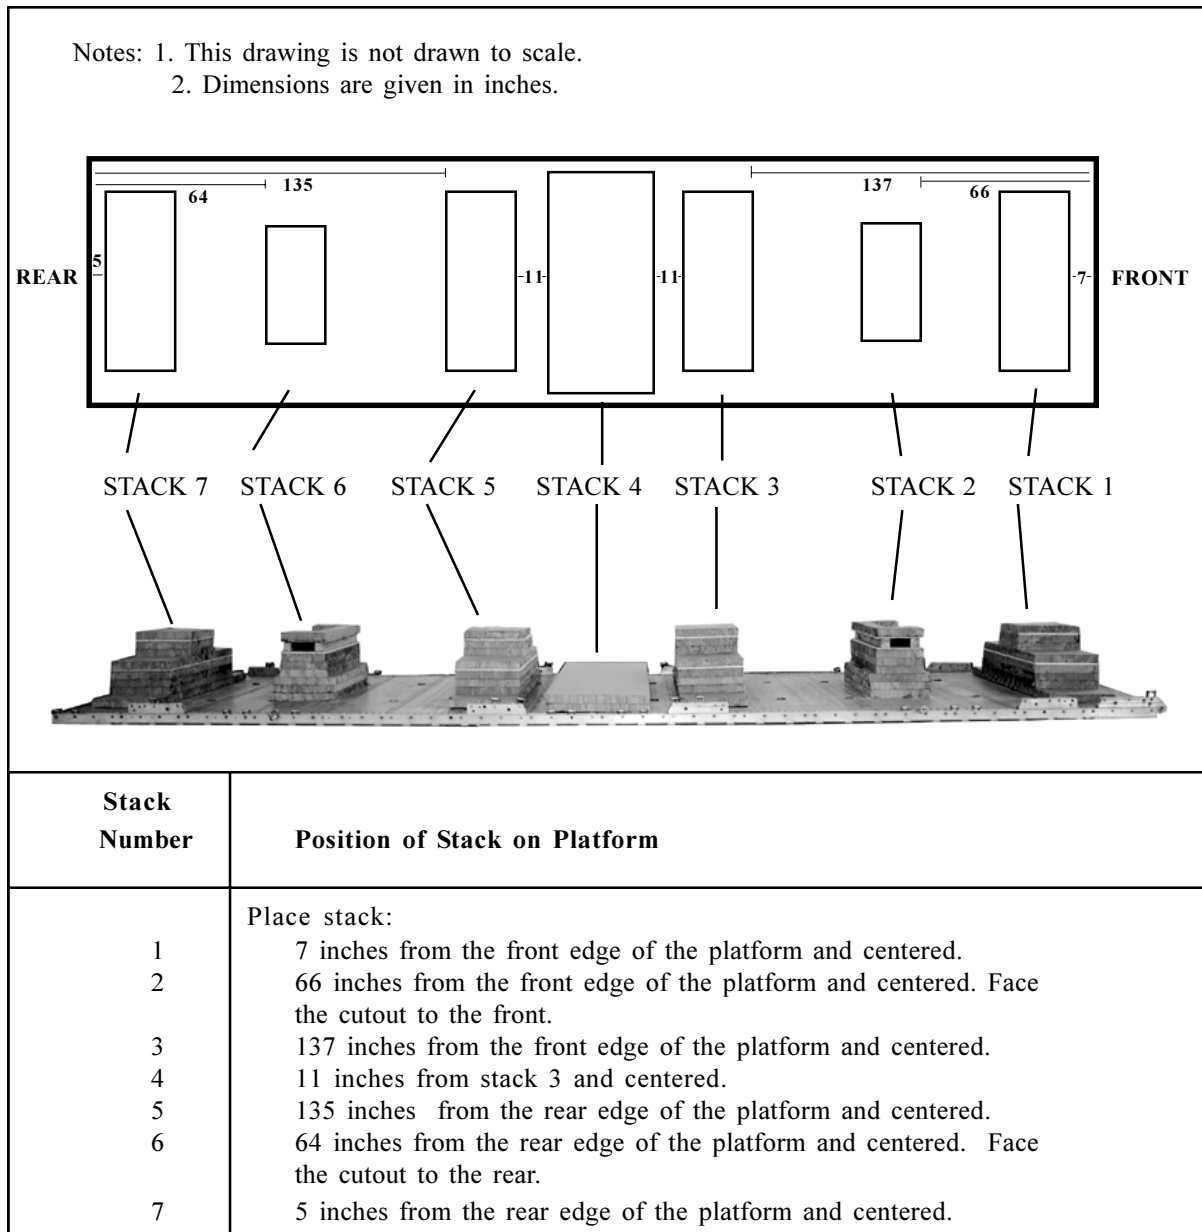

Figure 6-2. Honeycomb Stacks Positioned On Platform
6.3. Prepare honeycomb stacks 1, 3, 5, and 7 as shown in Figure 2-3. Prepare honeycomb stacks 2 and 6 as shown in Figure 2-4. Position the stacks on the platform as shown in Figure 6-2.